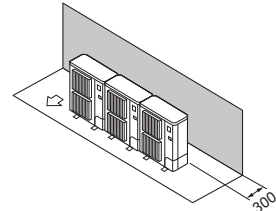

Fig. 5-9
- ① Obstacles at rear only (Fig. 5-9)